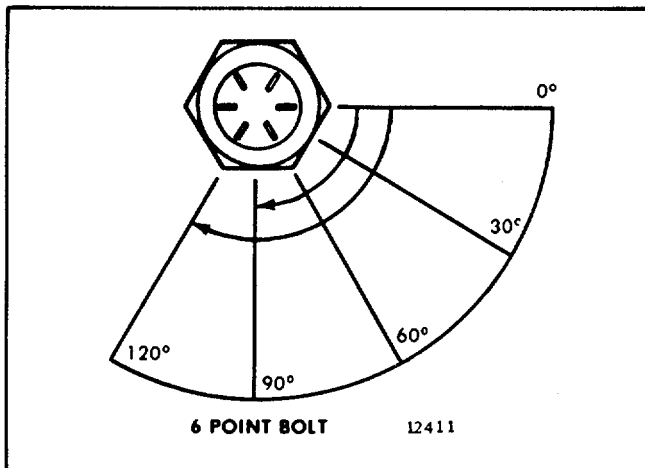

FIG. 4 Torque-Turn Limits
11. Turn the bolts an additional 90-120° (Fig. 4) to obtain the required clamping.